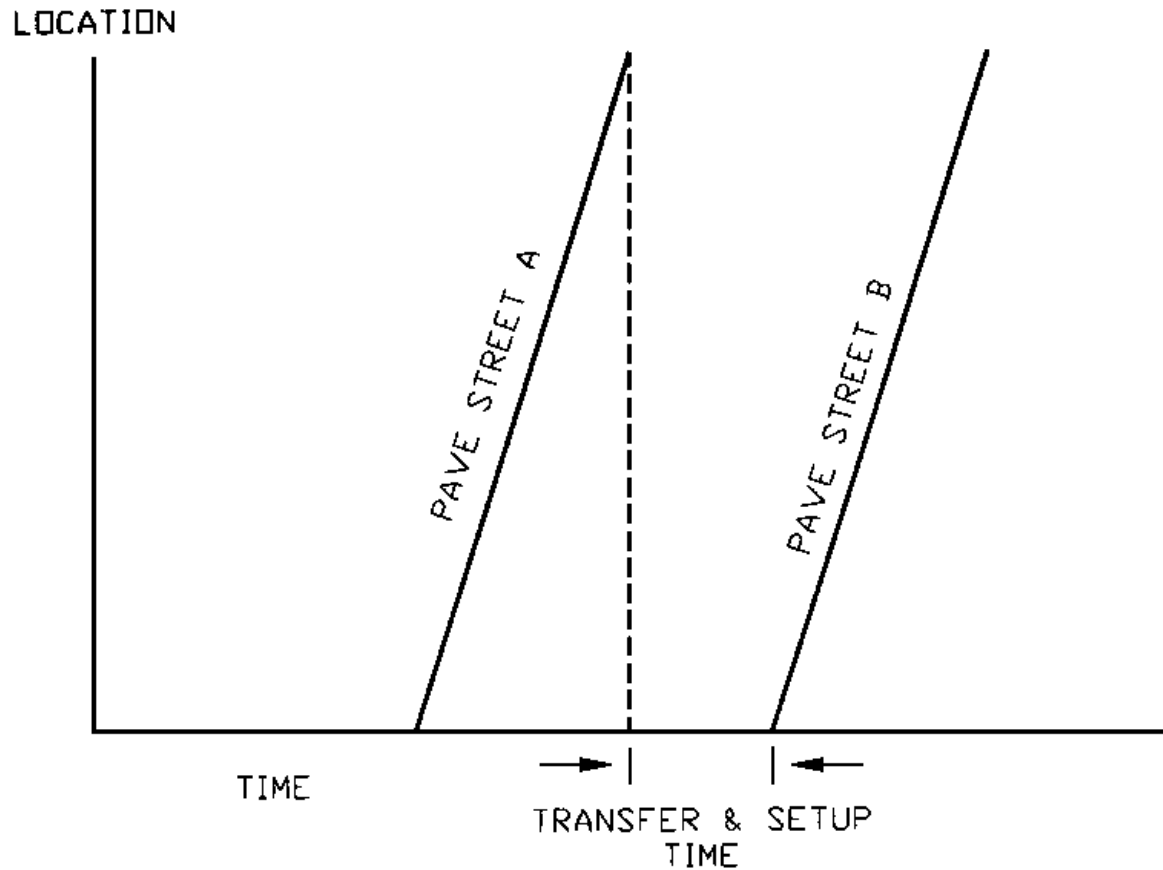

Figure 7-9 Use of restraint on LSM diagram
- **Figure 7-9:** restraint caused by equipment restriction (slip-form paver)